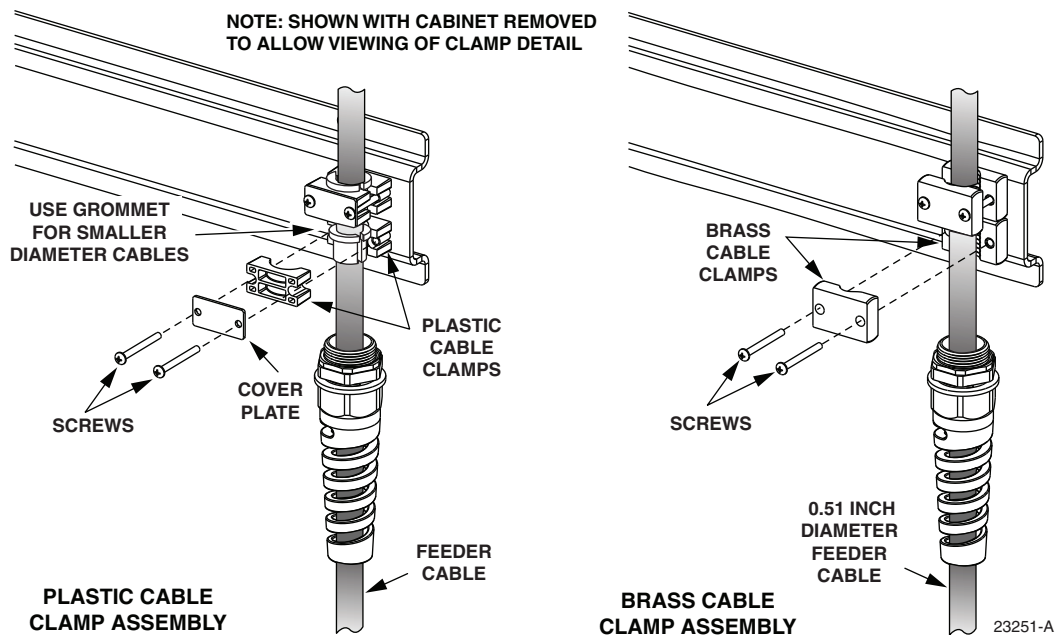

Figure 34. Assembling Feeder Cable Clamps
23. Depending on the cabinet option, either plastic or brass clamps will be provided with the cabinet. Assemble the cable clamps on the feeder cable as shown in Figure 34.